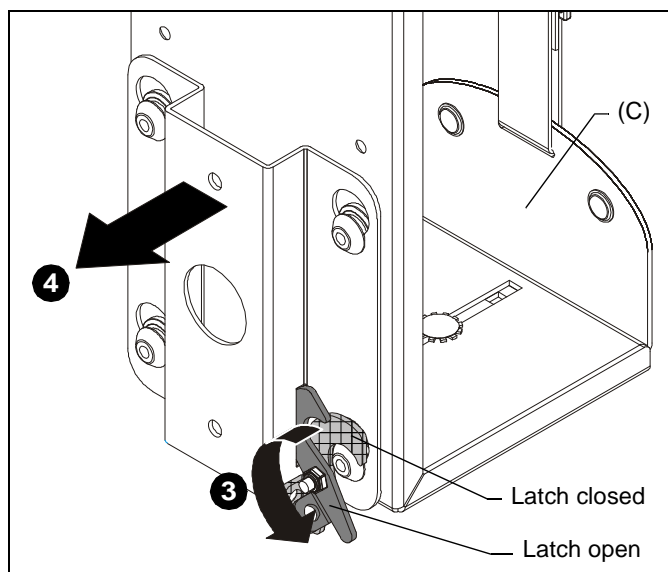

Figure 2
3. Release bracket from CPU mount (C) by moving the flag to the open position. (See Figure 2)
4. Remove bracket from mounting buttons on back of CPU mount (C). (See Figure 2)